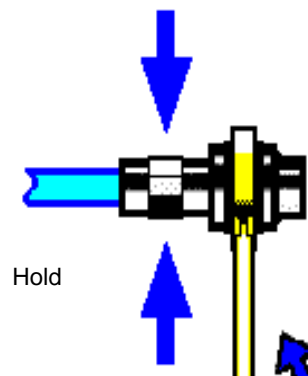

Figure 3.6 Finishing the connection with a torque wrench
**Step 3.** As shown in Figure 3.6, tighten the connectors with a torque wrench to complete the connection. Pay attention that the torque wrench should not exceed the initial folding point. Use an auxiliary wrench to prevent the connector from rotating.